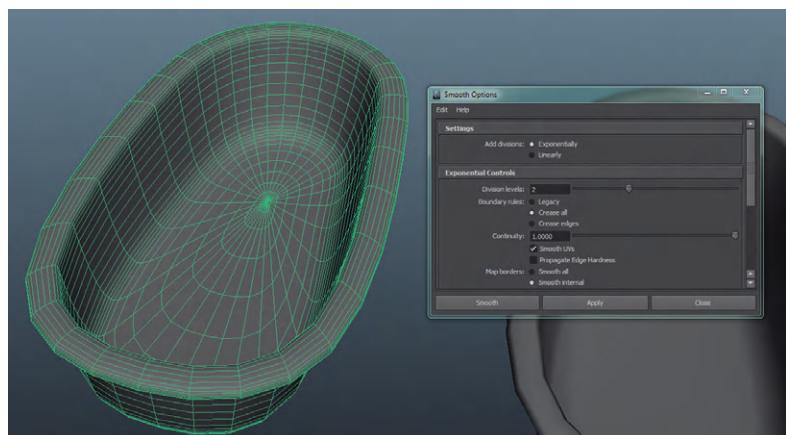

FIG 3.75 The results of the Smooth function.
Step 9: Smooth the polygonal mesh. Select Polygons|Mesh > Smooth (Options). Change the Divisions setting to 2. Hit the Smooth button (Fig. 3.75).